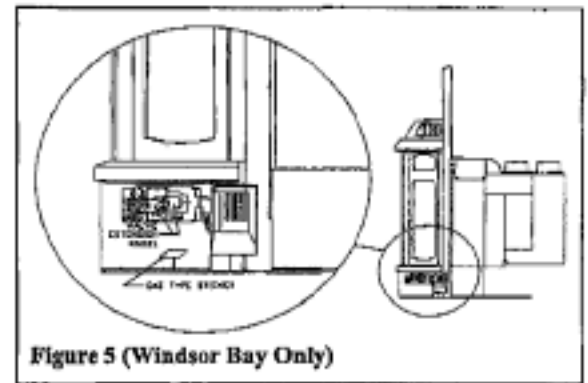

Figure 5 (Windsor Bay Only)
14) Locate and remove the valve extension knobs by pulling them straight out with your hand, located under the front right of the stove, as shown in Figure 5.
15) Using a slotted screwdriver, remove and discard the three pressure regulator mounting screws (A), the pressure regulator tower (B), and the diaphragm (C).
16) Insure that the rubber gasket (D) is properly positioned and install the new HI/LO pressure regulator assembly to the valve using the new screws (E) provided with the kit. Tighten the screws securely.
17) Install the enclosed identification label (F) to the valve body where it can be readily seen. Place the white NG sticker over the red LP sticker on the floor of the unit, just below the valve, as shown in Figure 5.
18) Replace the valve extension control knobs and reposition as previously noted and shown in Figure 5.